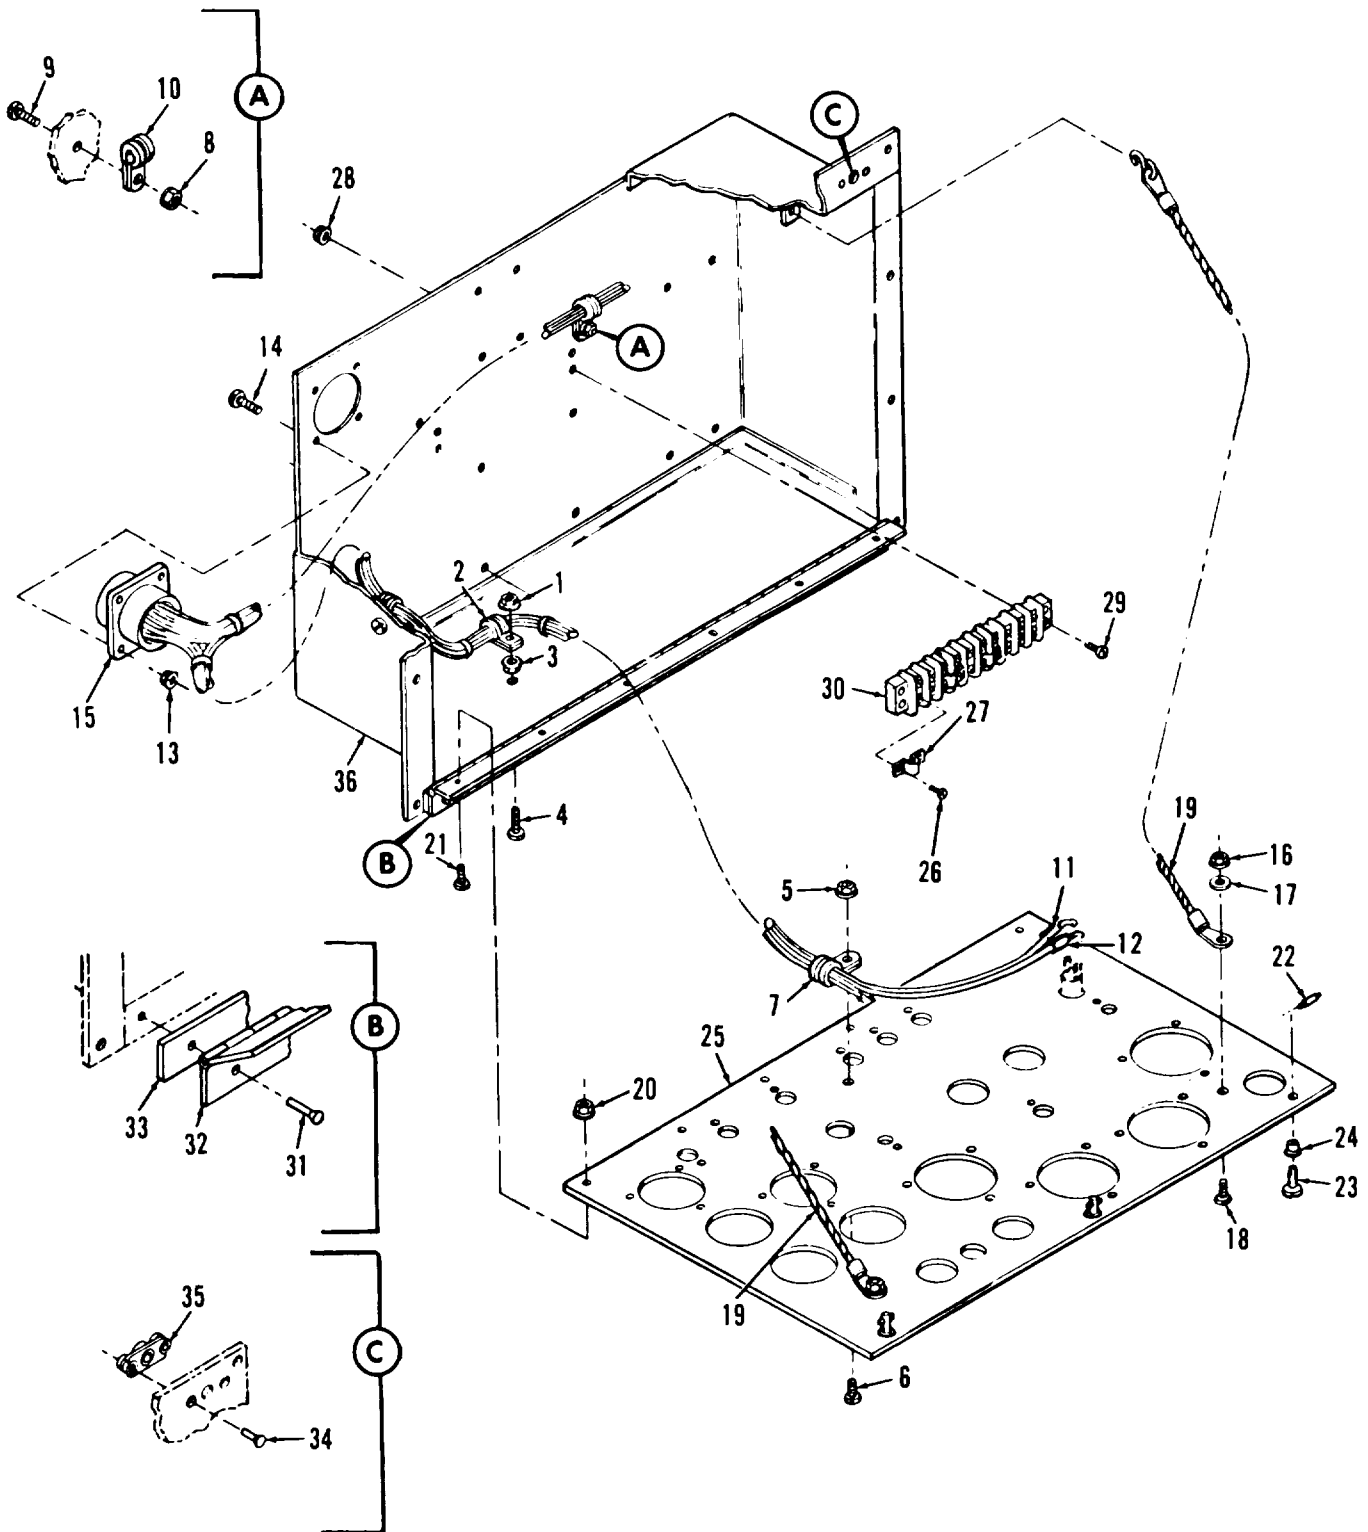

Figure 6-7. Control cubicle exploded view
6-31. DISASSEMBLY. Refer to figure 6-7 and disassemble control cubicle assembly in the order of index numbers assigned. Pay particular attention to the following:
Legend to figure 6-7:
6-35. REBUILD. Rebuild the control cubicle wire harness (15, figure 6-7) according to figure 6-8.
6-36. REASSEMBLY. Refer to figure 6-7 and reassemble control cubicle assembly in the reverse order of index numbers assigned. Pay particular attention to the following:
d. When installing clamp (2, figure 6-7) nearest control box door (25), leave nut (1) loose enough to permit harness to pivot when control box door is opened and closed.